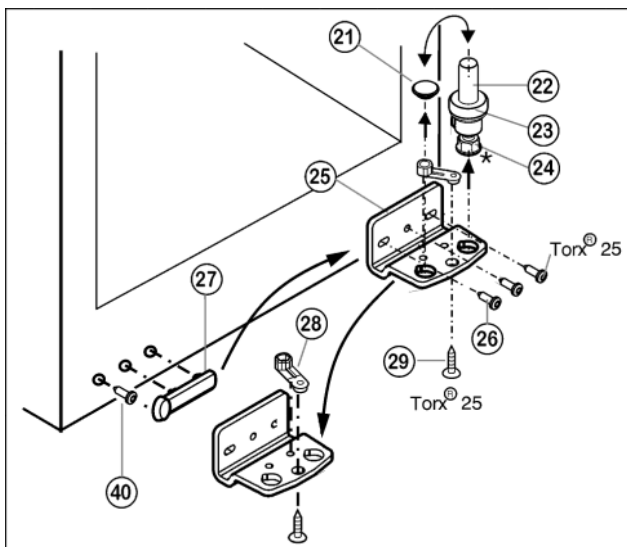

Fig. 5
- ▶ Lift out the bearing pin Fig. 5 (22) together with washer Fig. 5 (23) and adjustable-height foot* Fig. 5 (24).
- ▶ Lift off the stopper Fig. 5 (21).
- ▶ Unscrew Fig. 5 (26) the turn hinge Fig. 5 (25).
- ▶ Unscrew Fig. 5 (29) the bearing element Fig. 5 (28), transfer it to the opposite location hole of the turn hinge and screw it firmly into place.
- ▶ Carefully lift off the cover on the handle side Fig. 5 (27), undo the screw Fig. 5 (40) and transfer both to the opposite side.
- ▶ Screw the turn hinge Fig. 5 (25) firmly into place on the new hinge side, possibly using a cordless screwdriver (with 4 Nm).
- ▶ Re-insert the stopper Fig. 5 (21) into the other hole.
- ▶ Re-insert the bearing pin Fig. 5 (22) together with the washer and adjustable-height foot*. In so doing, pay attention that the locating lug points backwards
- ▶ Place the door from above onto the lower bearing pin Fig. 5 (22).
- ▶ Align the door to the appliance housing by way of the two oblong holes in the bottom turn hinge Fig. 5 (25). To do so, unscrew the middle screw.